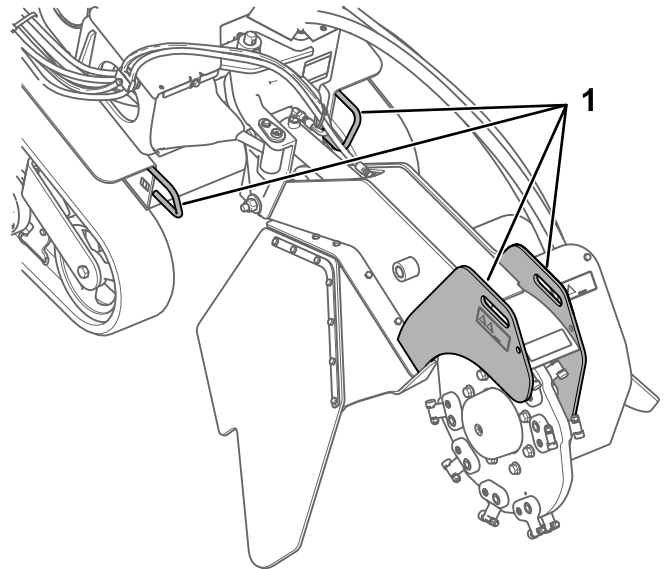
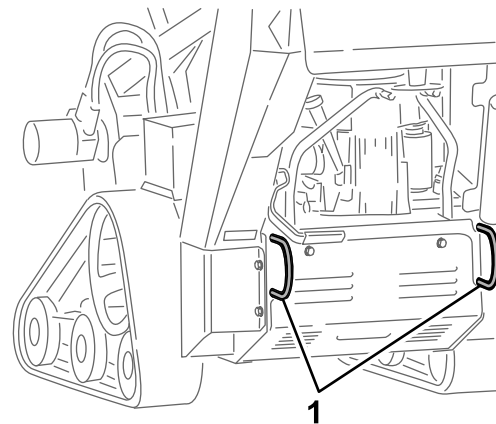

Figure 22
Figure 23
3. Secure the machine to a trailer with chains or straps using the tie-down/lift loops at the front and rear of the machine (Figure 22 and Figure 23).
You can lift the machine using the tie-down/lift loops as lift points (Figure 22 and Figure 23).